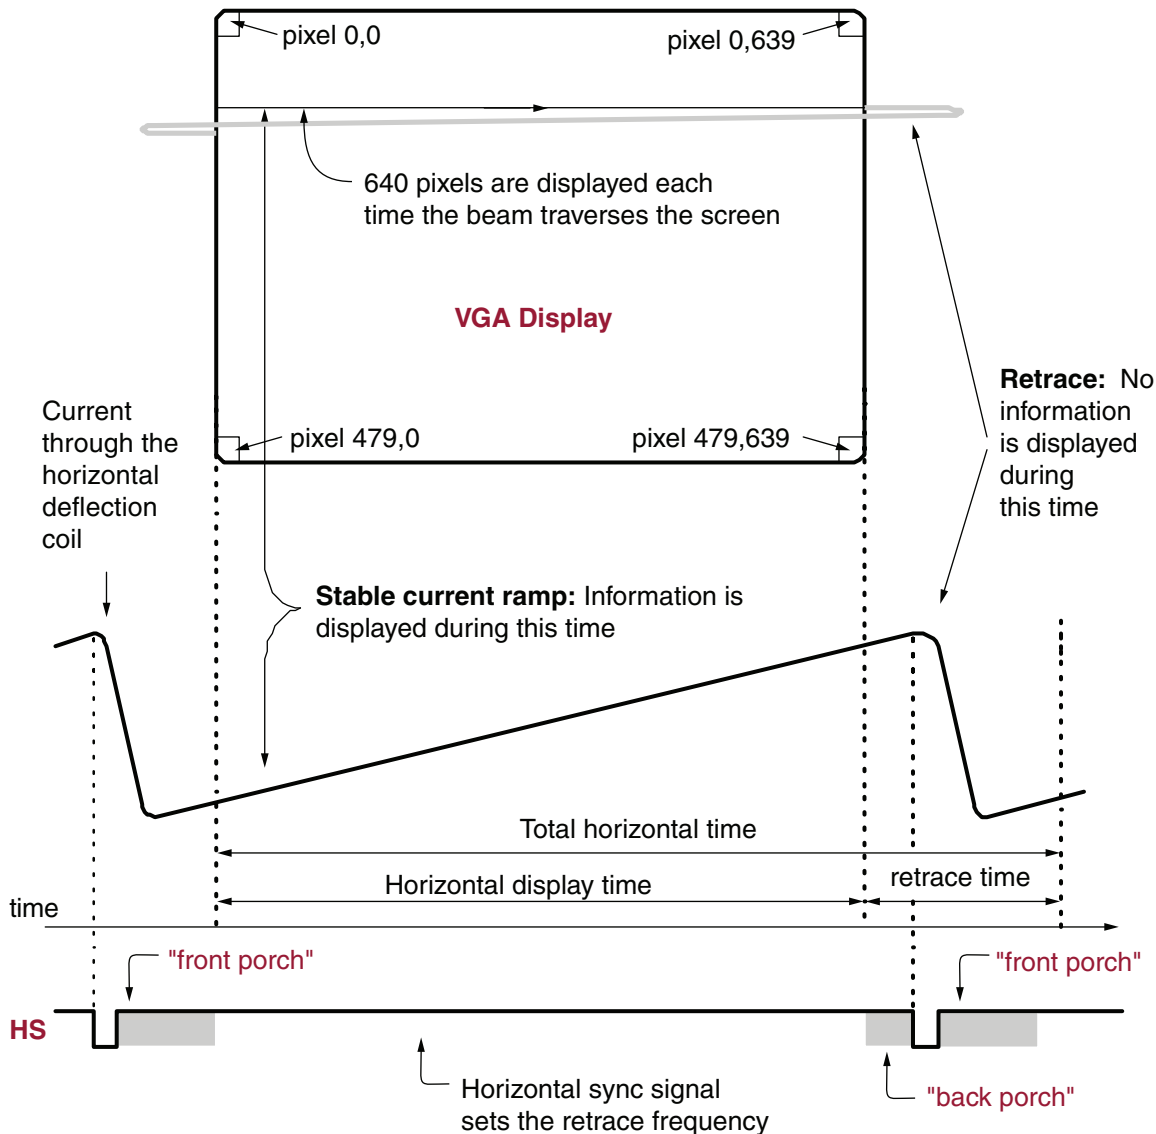

Figure 6-2: CRT Display Timing Example
Within a CRT display, current waveforms pass through the coils to produce magnetic fields that deflect electron beams to transverse the display surface in a *raster* pattern, horizontally from left to right and vertically from top to bottom. As shown in Figure 6-2, information is
As shown in Figure 6-2, the VGA controller generates the horizontal sync (HS) and vertical sync (VS) timing signals and coordinates the delivery of video data on each pixel clock. The pixel clock defines the time available to display one pixel of information. The VS signal defines the *refresh* frequency of the display, or the frequency at which all information on the display is redrawn. The minimum refresh frequency is a function of the display's phosphor and electron beam intensity, with practical refresh frequencies in the 60 Hz to 120 Hz range. The number of horizontal lines displayed at a given refresh frequency defines the horizontal *retrace* frequency.